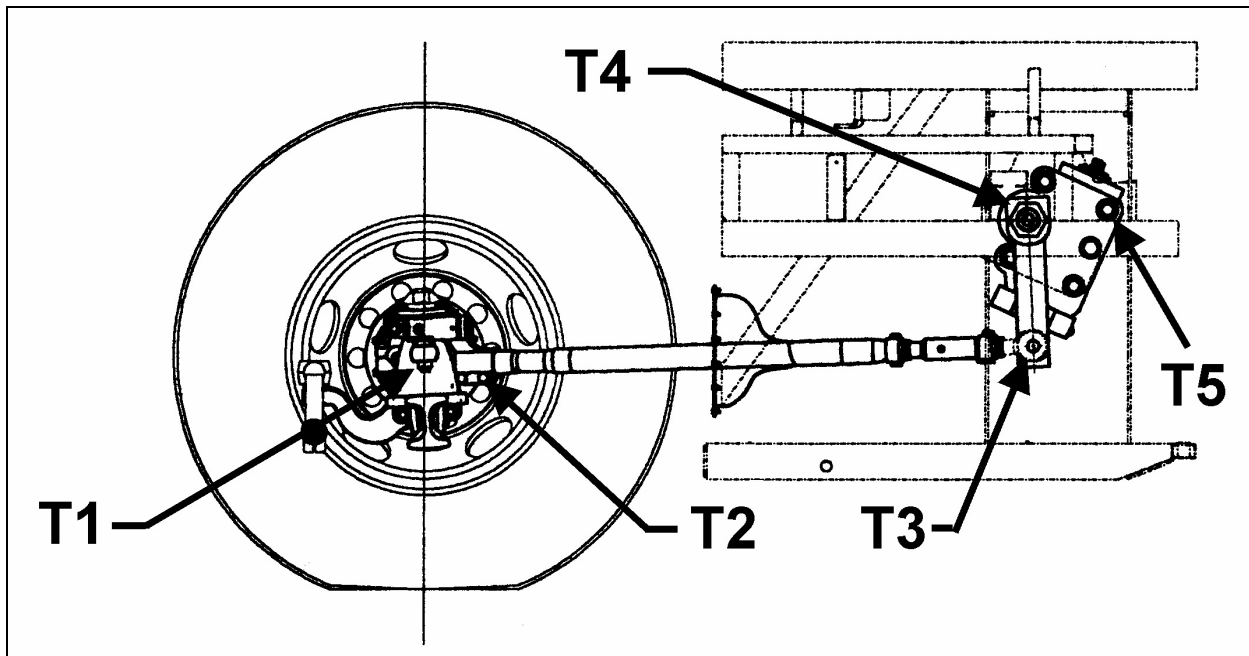

FIGURE 21: DRAG LINK COMPONENTS
| Drag Link End Stud Nut (on steering arm) | Fig. 21, T1 | 160-300 | 220-410 |
| Drag Link End Pinch Bolt Nuts            | Fig. 21, T2 | 40-60   | 55-80   |
| Drag Link End Stud Nut (on pitman arm)   | Fig. 21, T3 | 150-200 | 203-271 |
| Pitman Arm Fixing Nut                    | Fig. 21, T4 | 470-570 | 637-773 |
| Steering Gear Fixing Bolts (5)           | Fig. 21, T5 | 365-405 | 495-550 |